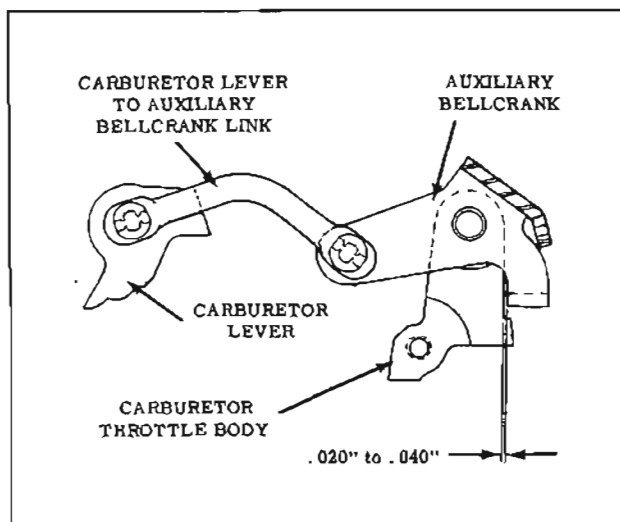

Fig. 7-3 Carburetor Lever to Auxiliary Bellcrank Adjustment (4 Barrel)
THROTTLE CONTROL ADJUSTMENT (Fig. 7-3)
- a. 4GC - With the use of a feeler or wire gauge, measure distance between machined surface of carburetor throttle body and the auxiliary bellcrank gauging tang. Clearance should be $.020"$ to $.040"$. If adjustment is necessary, remove auxiliary bellcrank link and bend as required. Install link and recheck clearance. (Fig. 7-3)